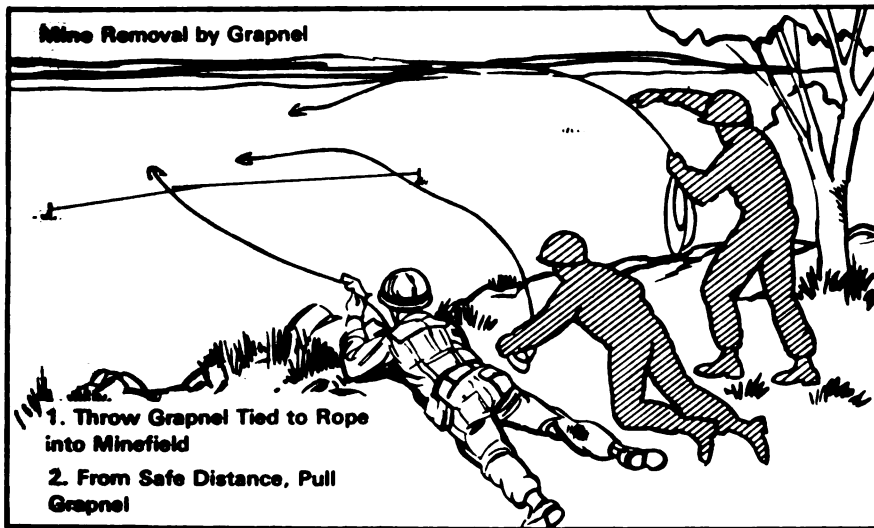

Figure 1
2. Use of Grapnels (fig. 1). This is the safest method of destroying tripwire or tilt rod fuze mines.